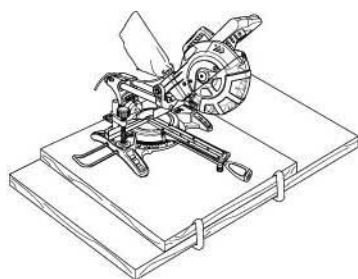

Fig. 13
2. If desired, mount the product to a piece of 3mm or thicker plywood which can then be clamped to your work support or moved to other job sites and re-clamped. (Fig. 13)